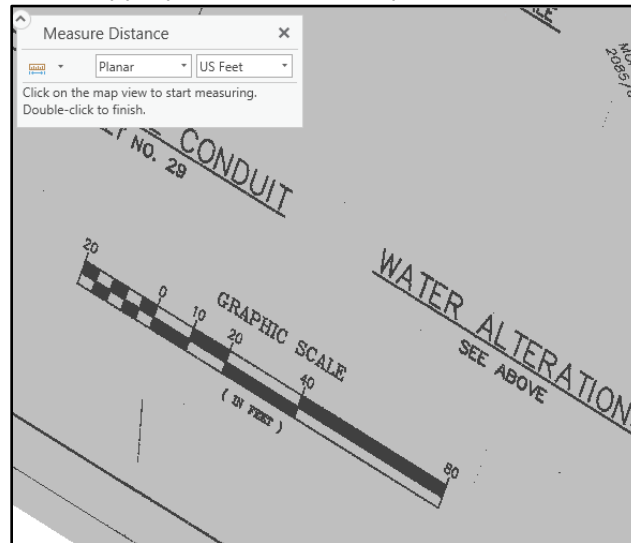

Figure 30
- i. Zoom into the portion of the image that contains the scale or stationing (Figure 30). Using the measuring tool, measure the length of the scale or length from station to station (make sure the measuring tool is set to feet or appropriate units for the plan).